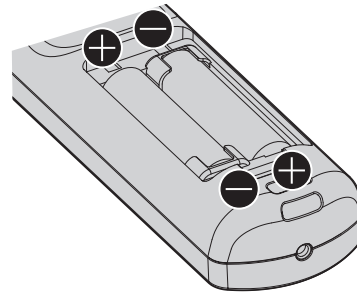

Fig. 2
- 2) **Insert the batteries and close the cover (insert the  $\ominus$  side first). (Fig. 2)**